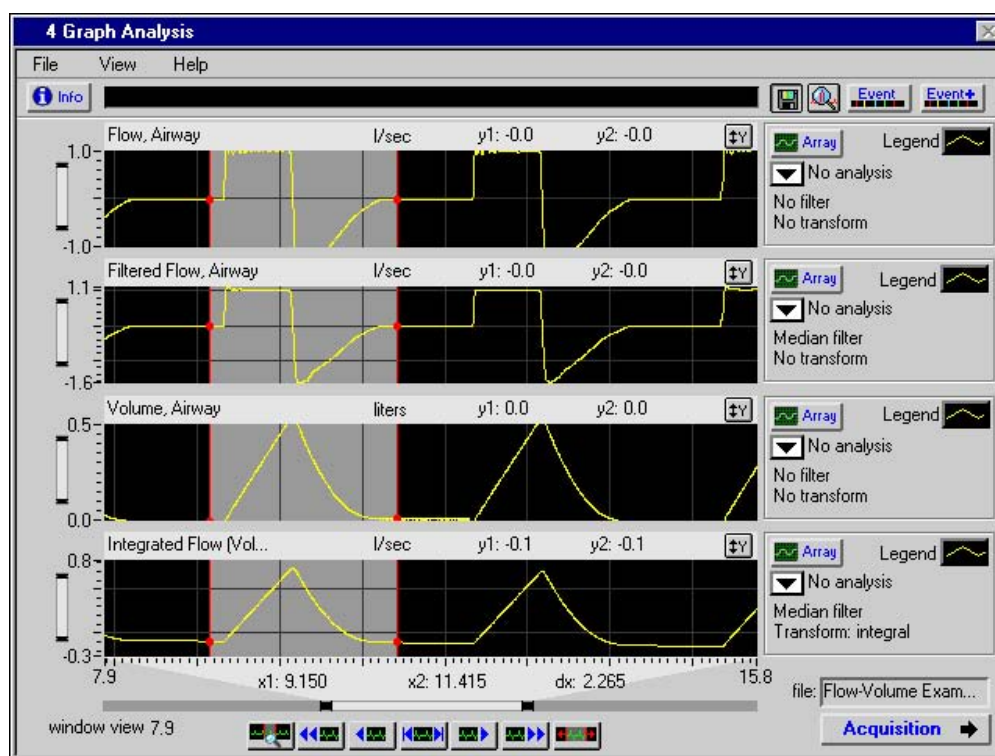

Figure B-24. 4 Graph Analysis View of Flow and Volume Waveforms
7. If the volume signal were not available as an analog voltage, DataLab 2000 could derive it by integrating the flow signal. To display the integrated flow (in other words, volume) signal on the bottom graph click on its label and select the *Flow, Airway* signal. Change the *Signal Label* to *Integrated Flow (Volume)*. Choose the *Median Filter* option from the *Filtering* pull-down list, enter the value 0.050 in the *# seconds* field. Choose the *Integral* option from the *Transform* pull-down list and click on the **OK** button. Figure B-24 (on the next page) shows each of these signals in the 4 Graph Analysis view.